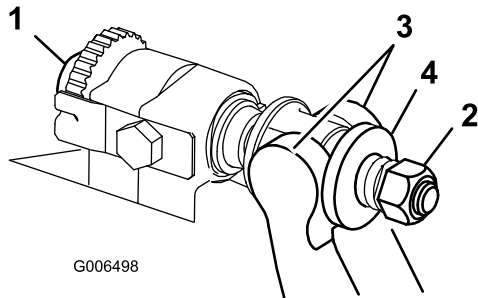

Figure 23
1. Turn the bedbar-adjusting screws counterclockwise to back the bedknife away from the reel (Figure 23).
2. Back out the spring-tension nut, until the washer is no longer tensioned against the bedbar (Figure 23).